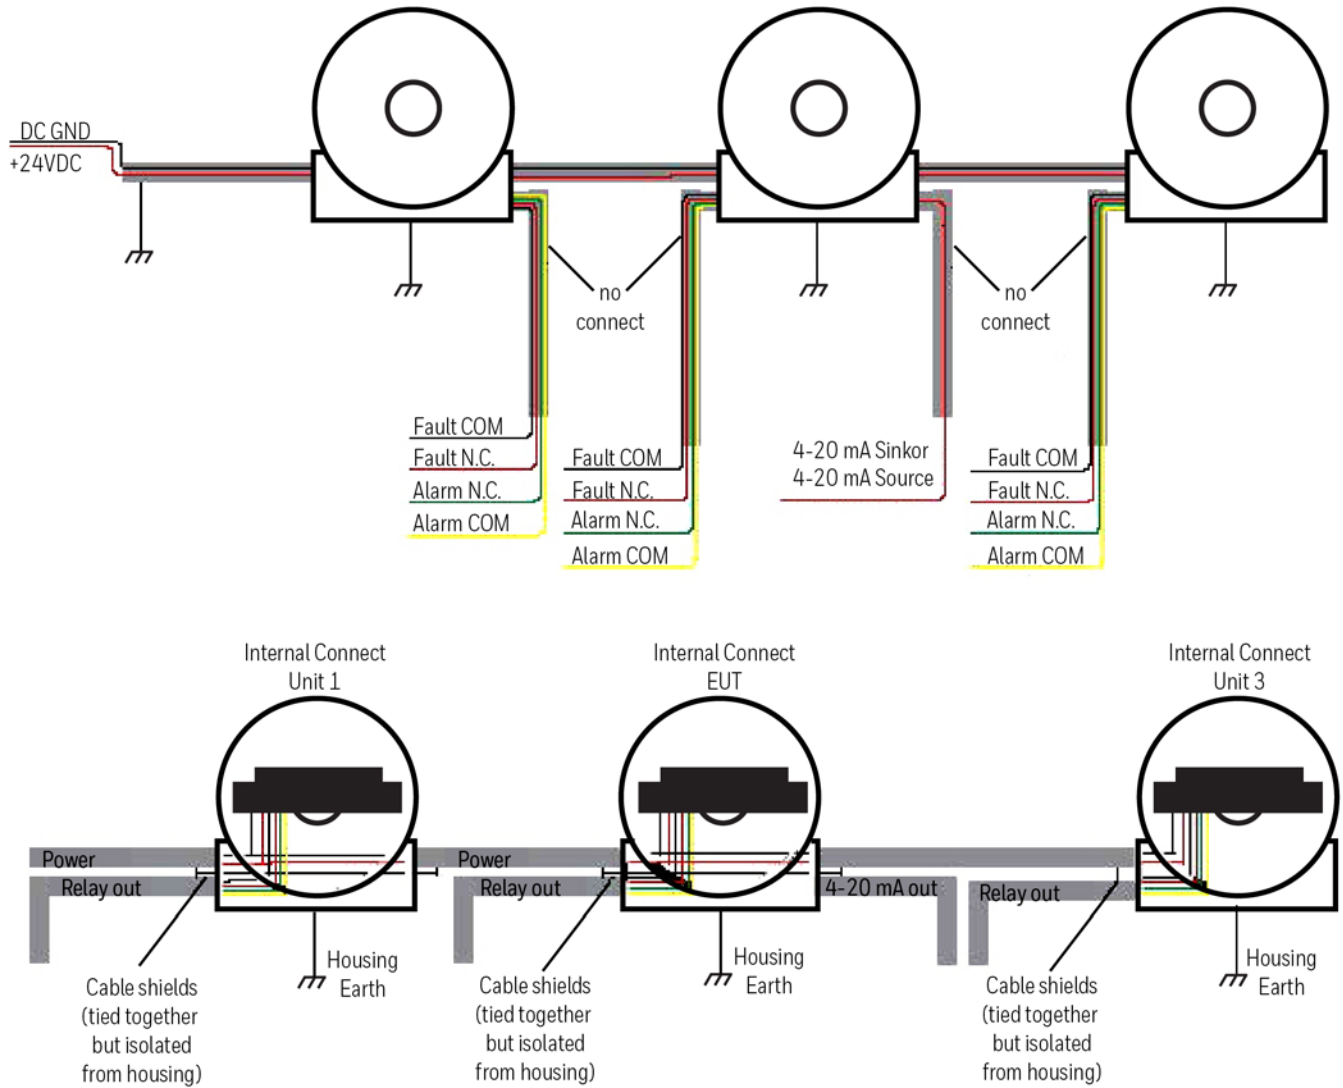

Figure 2-10
The Detector Module puck has a six (6) pin and a ten (10) pin keyed removable connector with screw terminal female plugs that connect to the two (2) respective male connectors with analog, digital, and relay interfaces. See the *figure 2-10*.
- For **relay configurations**, use the ten (10) pin plug (J2) and its connector.
- For **digital and analog configurations**, use the six (6) pin plug (J1) and its connector.